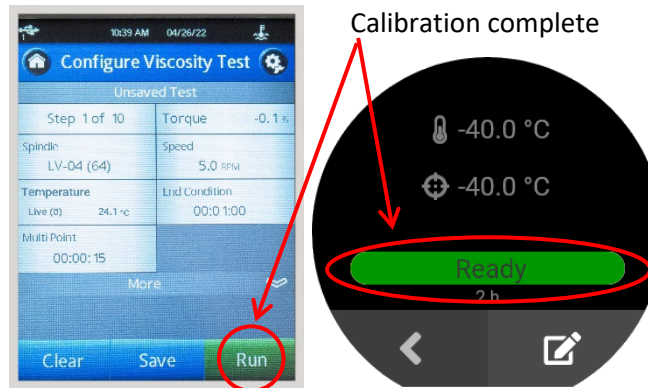

Figure 50: First Phase of Calibration Complete
- After the progress bar on the Base Unit completes, the Head Unit will continue running the calibration for less than half an hour. You will know when both are complete when you see the **Run** button on the Head Unit and **Ready** button on the Base Unit. See Figure 50.